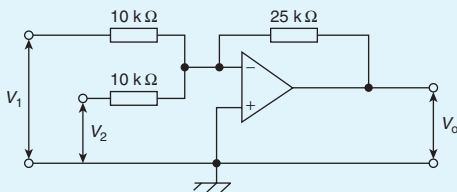

Figure 19.19
- In the circuit of Fig. 19.19, determine the value of the output voltage, V_o , when (a) $V_1 = +1\text{ V}$ and $V_2 = +3\text{ V}$ (b) $V_1 = +1\text{ V}$ and $V_2 = -3\text{ V}$